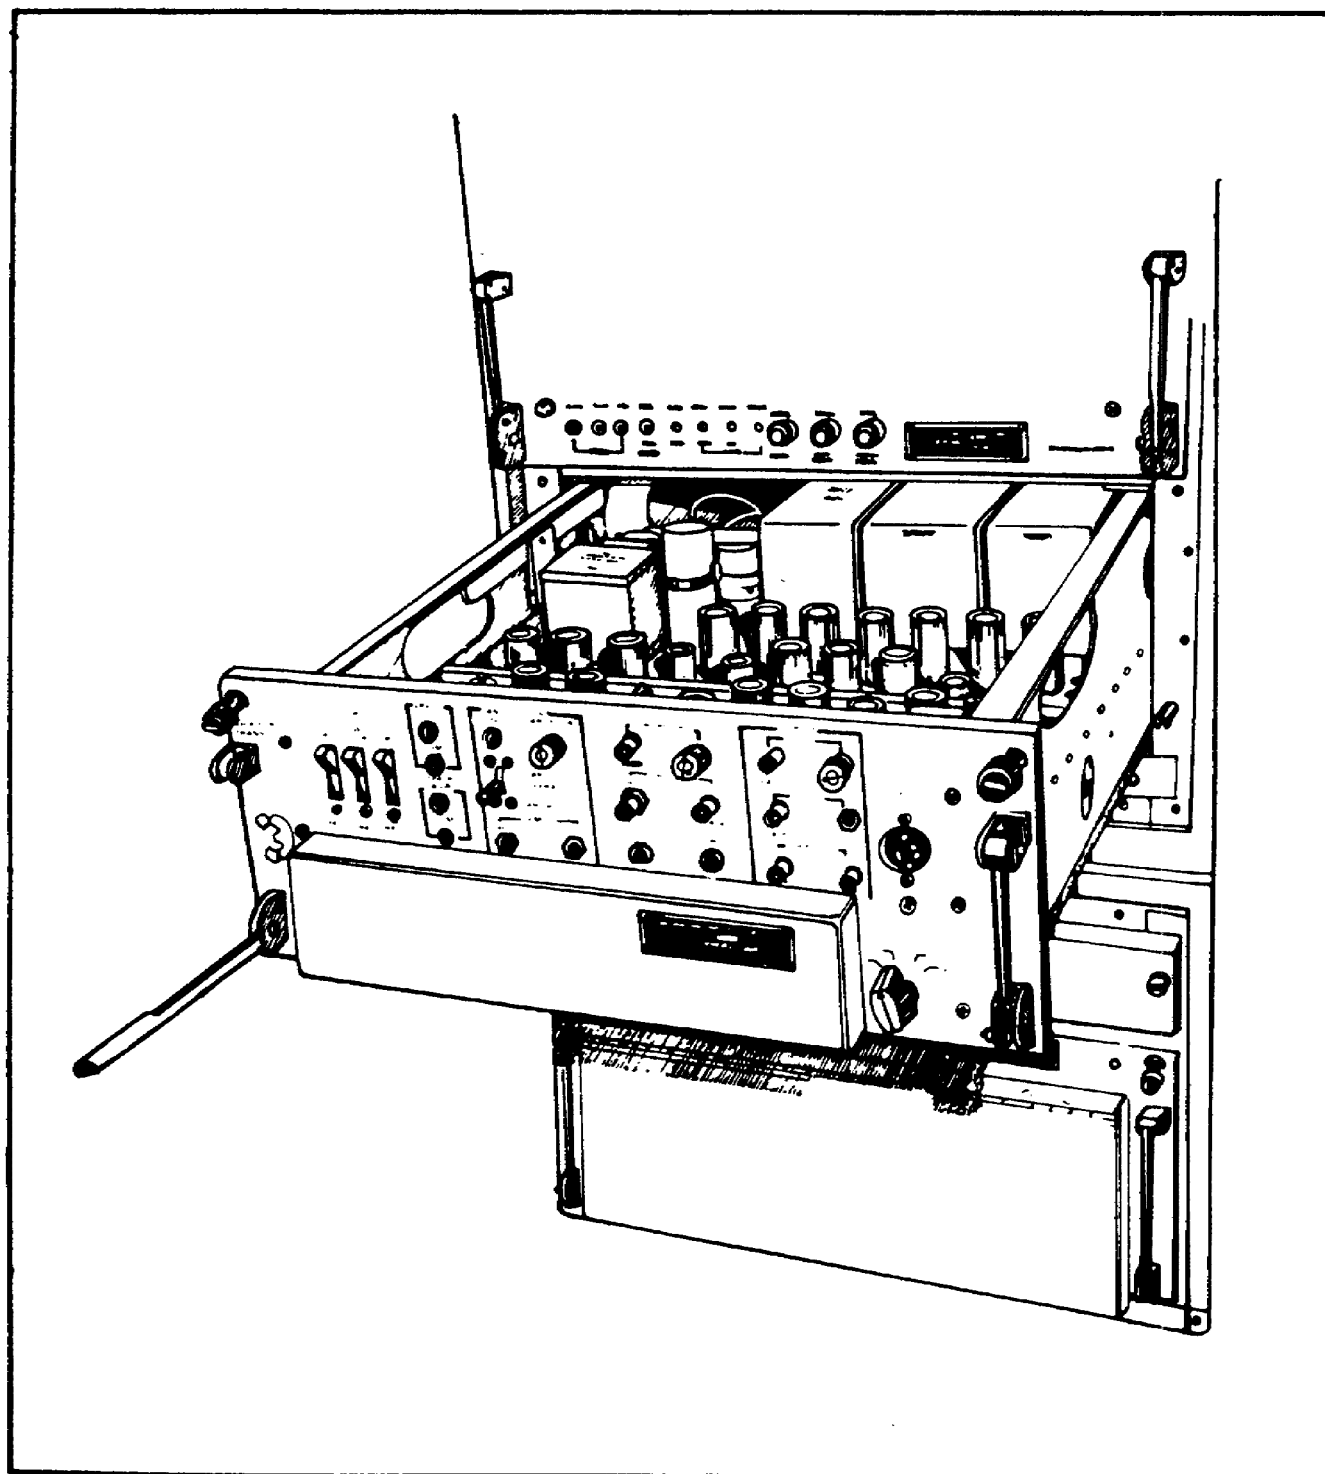

Figure 41. Computer navigational CP-338/FPN-33.
r. Locate and disengage the release handles on computer navigational CP-338/FPN-33 and pull drawer forward to its mechanical stops. (See Figure 41.)
- _____ Computer, navigational CP-338/FPN-33 release handles (Figure 41)